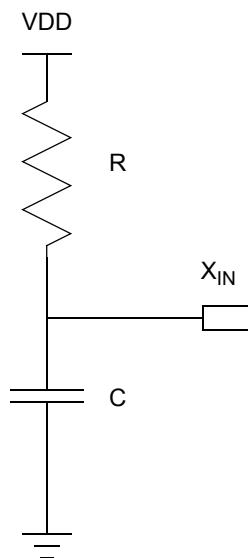

Figure 62. Connecting the On-Chip Oscillator to an External RC Network
Figure 62 illustrates a recommended configuration for connection with an external resistor-capacitor (RC) network.